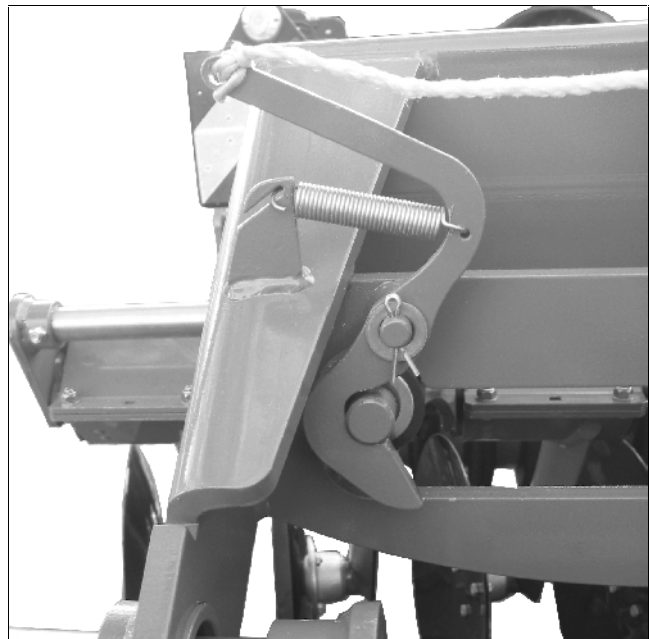

Fig. 13
- In the field back up with the implement until the disc rows lock in the transport position! (Fig. 13 – locking position).
Locking position of the rear disc row: Pointer (Fig. 13) in Pos A.